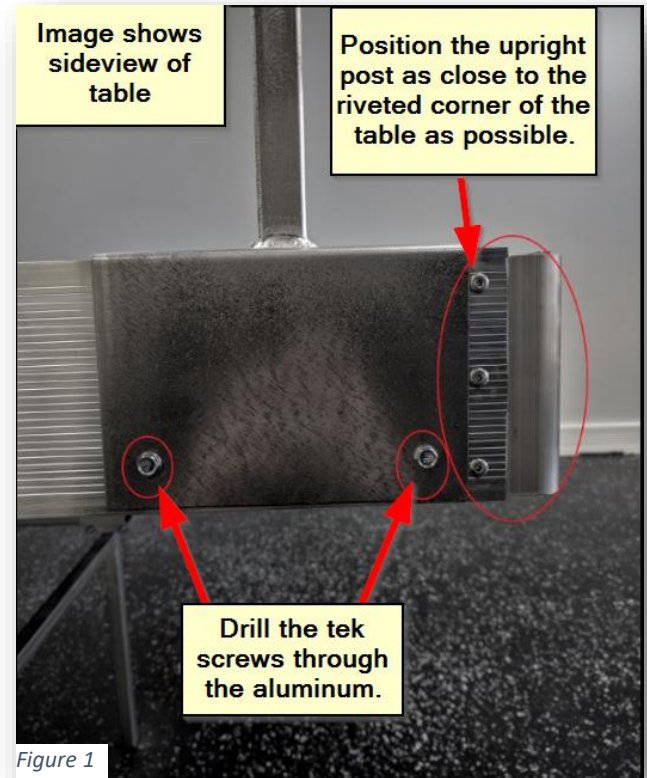

Figure 1
1. Take one of the upright posts (**PS3**) and line it up as close to the riveted corner of the aluminum bench. Then use the tek screws (**A11**) and drill through the aluminum. It's recommended to begin connecting the upright posts on all four corners of the bench first then move onto the middle ones. Be sure to line up the upright posts identically to the ones that are positioned on the opposite side of the bench. (see *Figure 1*)